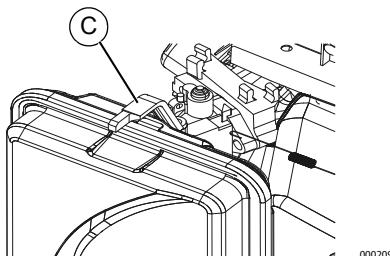

Figure 3-3.Choke Position
5. Slide engine choke (C) to Full CHOKE position (left). See *Figure 3-3*.